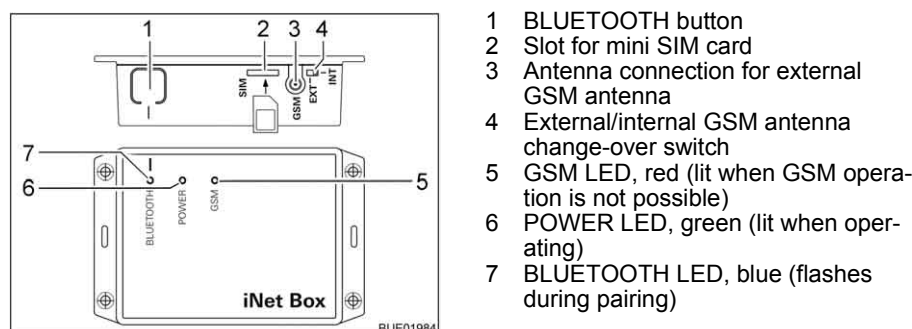

Fig. 212 Truma iNet-Box
- Press the BLUETOOTH button (Fig. 212,1) on the iNet-Box for 1 second. The Truma iNet-Box will be visible in the mobile terminal for approx. 2 minutes (name: "Truma iNet-Box"). During this period, the blue BLUETOOTH LED (Fig. 212,7) will be flashing.
- Carefully insert the mini SIM card with own telephone number and sufficient credit into the slot (Fig. 212,2) of the Truma iNet-Box as shown until it engages. The red GSM LED (Fig. 212,5) must be flashing continuously. If the red LED goes out after 20 seconds: check mini SIM card.